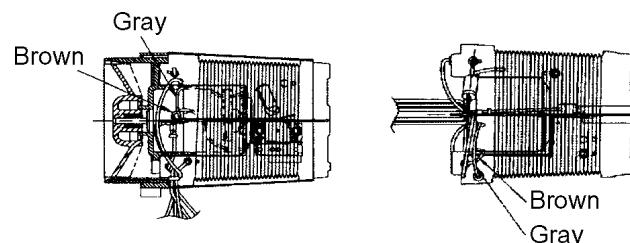

Figure 3
2. Solder gray and brown lead wires into the heater as shown in Figure 3.